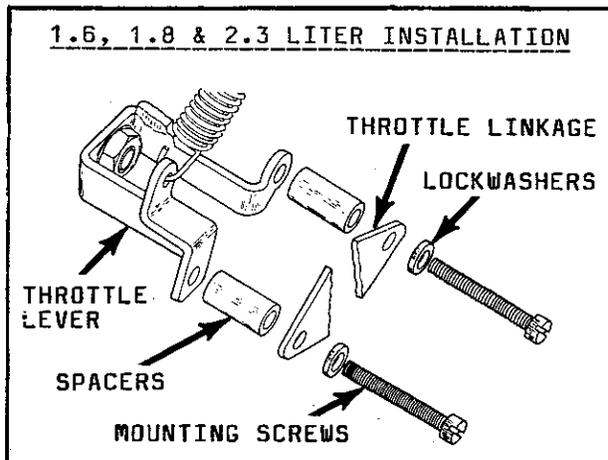
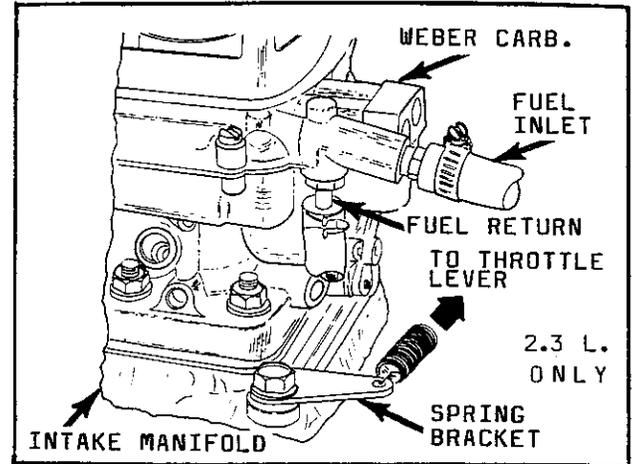

Figure 3
Figure 4
**NOTE:** On 1.6, 1.8 and 2.3 liter vehicles install the linkage with spacers supplied, as shown in figure 3. On 2.0 liter vehicles, no spacers are used and linkage connects directly to the throttle lever.
**NOTE:** On 1.6, 1.8 & 2.0 liter engines, the spring is connected to the stock return spring bracket (Fig. 3). On 2.3 liter engines the return spring is connected to a bracket, supplied in kit, which is secured by a bolt near the left rear of the intake manifold as shown in figure 4.
21. Connect fuel supply and fuel return lines. See figure 4.